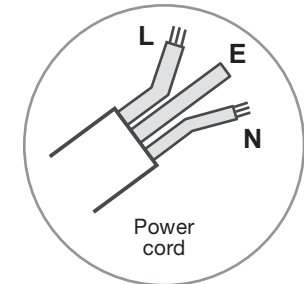

Fig. 1
The power cord is distinguished according to the cord color just as follows (see fig. 1):
1. Hold the side Panel in one hand and gently pull back the center to free the open end. See FIG. 1.